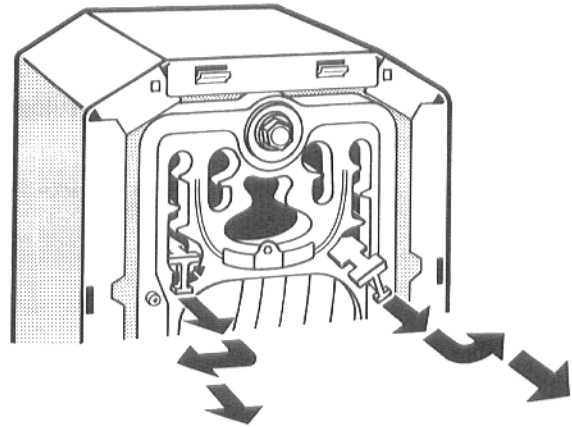

Fig. 29
- Pull the flue gas baffle plates slightly forward and turn the safety latch toward the outside. Remove the flue gas baffle plates towards the front (Fig. 29).